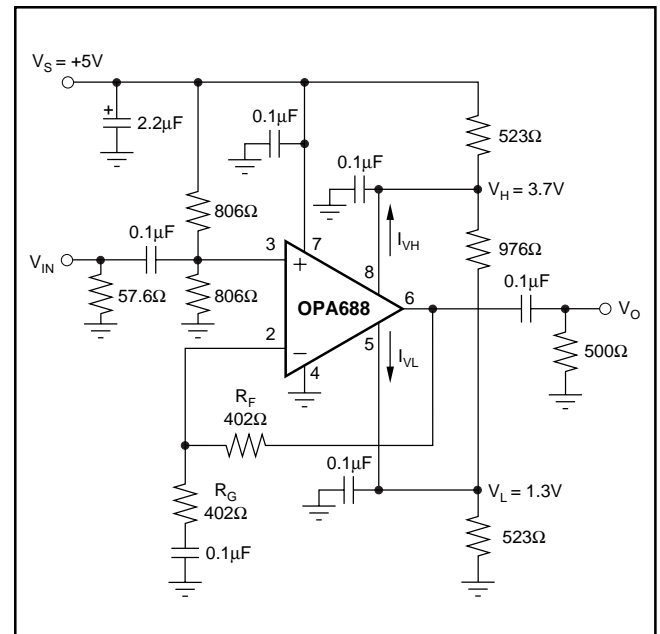

FIGURE 2. AC-Coupled, Single Supply Amplifier.
G = +2, $R_L = 500\Omega$ tied to $V_{CM} = 2.5V$, $R_F = 402\Omega$, $V_L = -1.2V$, $V_H = +1.2V$ (Figure 2 for AC performance only), unless otherwise noted.
NOTES: (1) Junction Temperature = Ambient Temperature for low temperature limit and 25°C guaranteed specifications. Junction Temperature = Ambient Temperature + 23°C at high temperature limit guaranteed specifications. (2) TEST LEVELS: (A) 100% tested at 25°C. Over temperature limits by characterization and simulation. (B) Limits set by characterization and simulation. (C) Typical value for information only. (3) Current is considered positive out of node. (4) CMIR tested as < 3dB degradation from minimum CMRR at specified limits. (5) I_{VH} (V_H bias current) is negative, and I_{VL} (V_L bias current) is positive, under these conditions. See Note 3, Figures 2, and Figure 8. (6) Limiter feedthrough is the ratio of the output magnitude to the sinewave added to V_H (or V_L) when $V_{IN} = 0$. (7) V_H slew rate conditions are: $V_{IN} = V_{CM} + 0.4V$, G = +2, $V_L = V_{CM} - 1.2V$, $V_H =$ step between $V_{CM} + 1.2V$ and V_{CM} . V_L slew rate conditions are similar. (8) Linearity Guardband is defined for an output sinusoid (f = 5MHz, $V_O = V_{CM} \pm 1V_{p-p}$) centered between the limiter levels (V_H and V_L). It is the difference between the limiter level and the peak output voltage where SFDR decreases by 3dB (see Figure 9).
$G = +2$, $R_F = 402\Omega$, $R_L = 500\Omega$ tied to $V_{CM} = 2.5V$, $V_L = V_{CM} - 1.2V$, $V_H = V_{CM} + 1.2V$, (Figure 2 for AC performance only), unless otherwise noted.
Figure 2 shows an AC-coupled, non-inverting gain amplifier for single +5V supply operation. This circuit was used for AC characterization of the OPA688, with a 50Ω source, which it matches, and a 500Ω load.
The OPA688 is nominally specified for operation using either $\pm 5\text{V}$ supplies or a single $+5\text{V}$ supply. The maximum specified total supply voltage of 12V allows reasonable tolerances on the supplies. Higher supply voltages can break down internal junctions, possibly leading to catastrophic failure. Single-supply operation is possible as long as common mode voltage constraints are observed. The common mode input and output voltage specifications can be interpreted as a required headroom to the supply voltage. Observing this input and output headroom requirement will allow design of non-standard or single-supply operation circuits. Figure 2 shows one approach to single-supply operation.
When the limiter voltages need to be within 2.1V of the supplies ($V_L \leq -V_S + 2.1\text{V}$ or $V_H \geq +V_S - 2.1\text{V}$), consider using low impedance buffers to set V_H and V_L to minimize errors due to bias current uncertainty. This will typically be the case for single supply operation ($V_S = +5\text{V}$). Figure 2 runs 2.5mA through the resistive divider that sets V_H and V_L . This keeps errors due to I_{V_H} and $I_{V_L} < \pm 1\%$ of the target limit voltages.